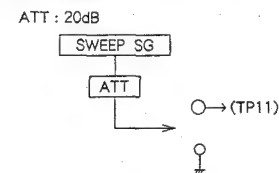

Fig. 3-6
- (1) Connect the test equipment as follows. (See Figure 3-6)